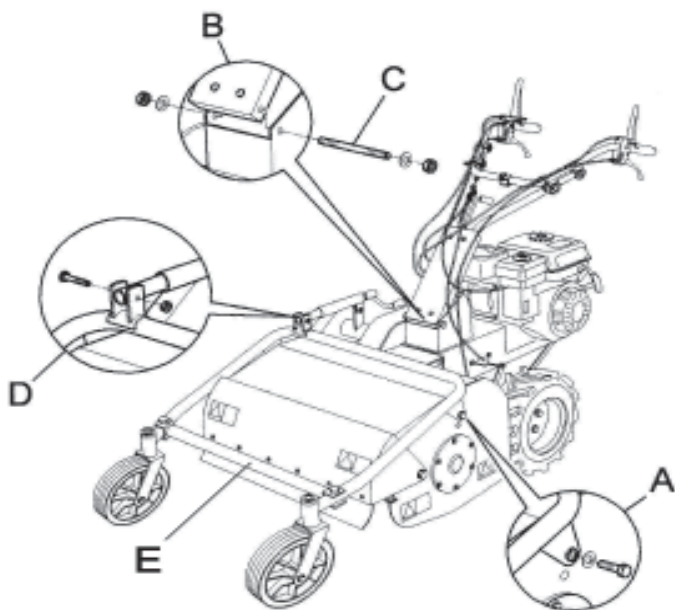

Figure 3
- Lift the handlebar and insert it in the support shown in Fig. 3 ref. B. Then feed the screw stay (Fig. 3 ref. C) through the relative holes and secure it on both sides using the screws and washers provided.
- Position the support with front wheels and connect the height adjustment piece (Fig. 3 ref. D) using the screw and washer provided. Fix it to both sides of the bonnet as well using the screws, washers and spacers provided, as shown in Fig. 3 ref. A.
- Fix the safety bar (Fig.3 ref. E) to the special holes on the two front sides of the wheel support using the screws, washers and nuts provided.